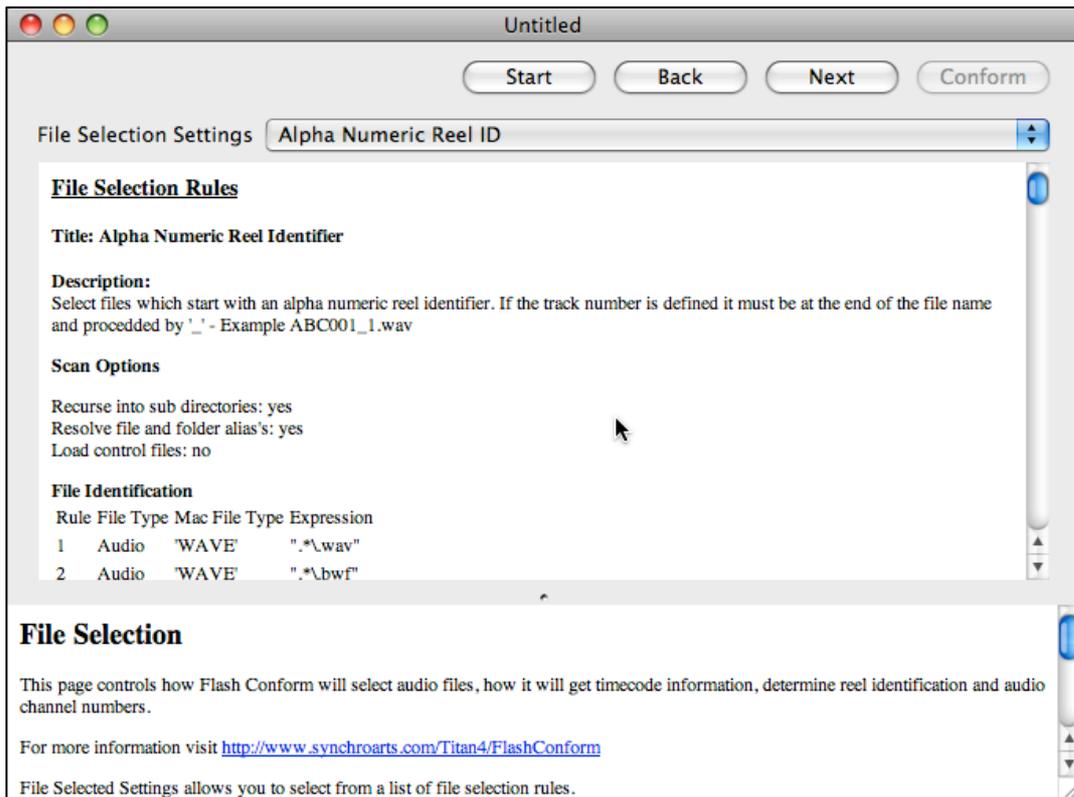

Figure 9 File Selection Rule window showing Alphanumeric Reel ID chosen
- Flash Conform uses a set of rules to determine which audio files belong to which reel, and how timecode data is represented in the audio files. These rules are controlled by the File Selection Rule page, which can be seen in Figure 9.